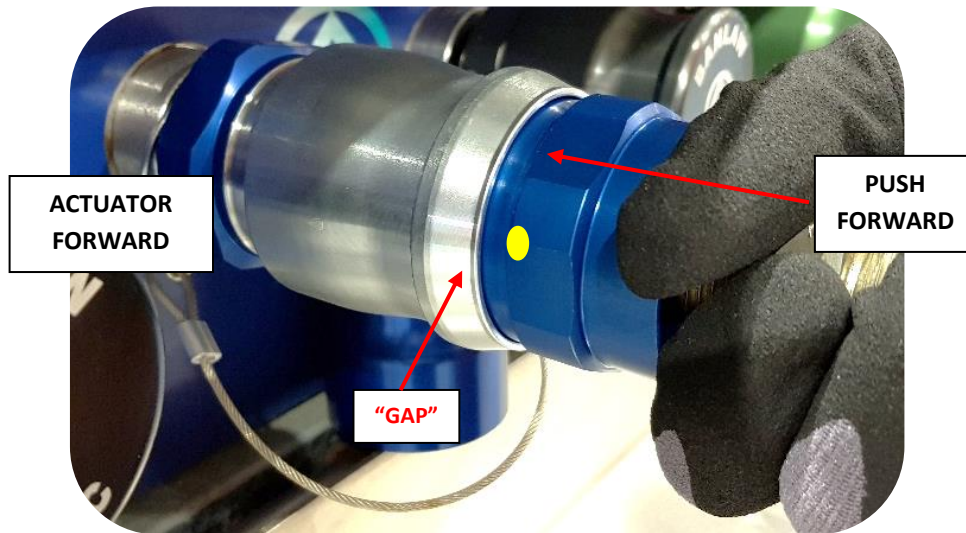

Figure 7 – "Push to Connect" - Couplers Connected
10. The ball lock mechanism is engaged once the Actuator moves into the fully forward position, creating a "gap" (clearance) between the rear of the Actuator and the Nozzle tail – refer Figure 7.